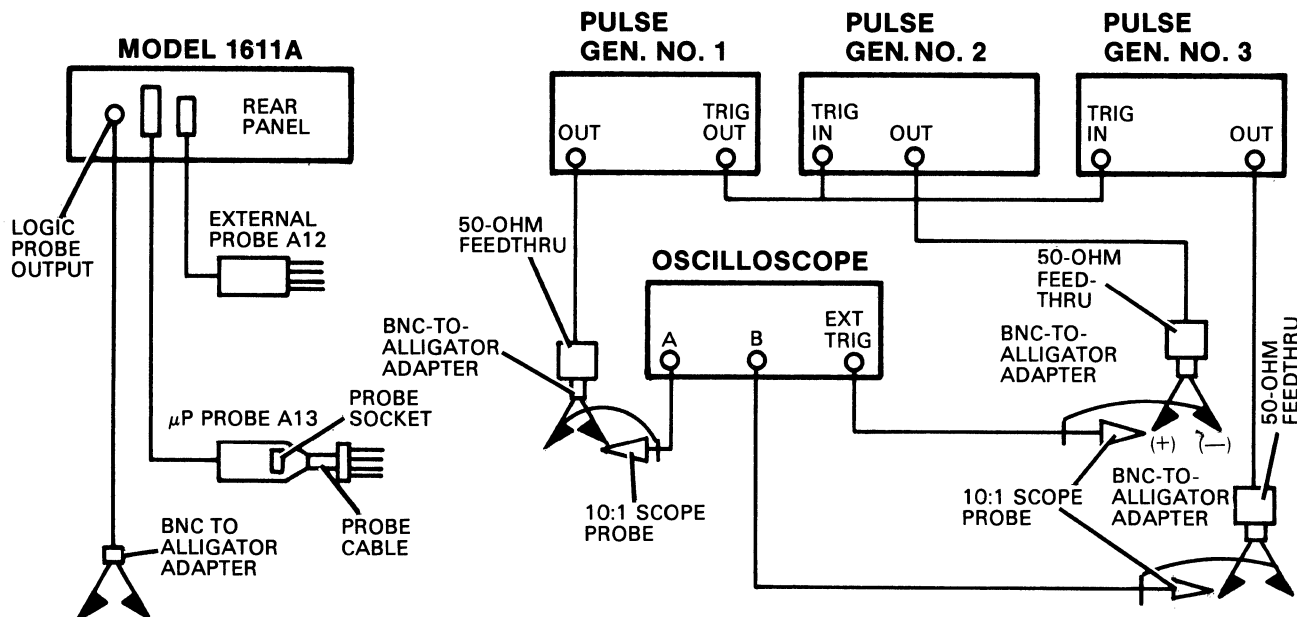

Figure 4-1. Specification Verification Test Setup
- a. Connect test equipment as shown in figure 4-1.